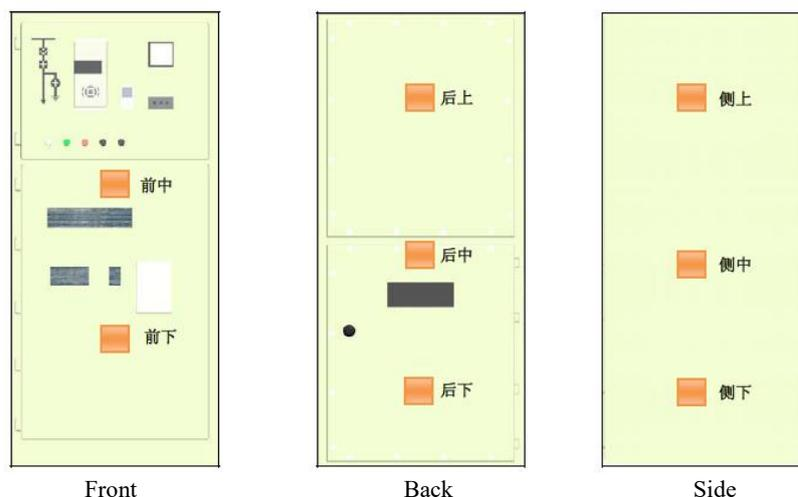

Figure 6-1- Schematic diagram of the TEV detection site
- 5) Signal Detection: Press the sensor close to the detection site. The main parts of the switchgear where discharge occurs are the busbar (connection, wall bushing, support insulation, etc.), circuit breaker, CT, PT, cable and other equipment corresponding to the position of the cabinet wall of the switchgear, most of these devices are located in the middle and lower part of the front panel of the switchgear, the upper, middle and lower part of the rear panel, the upper, middle and lower part of the side panel (switch cabinet TEV The detection site is shown in Figure 6-1).